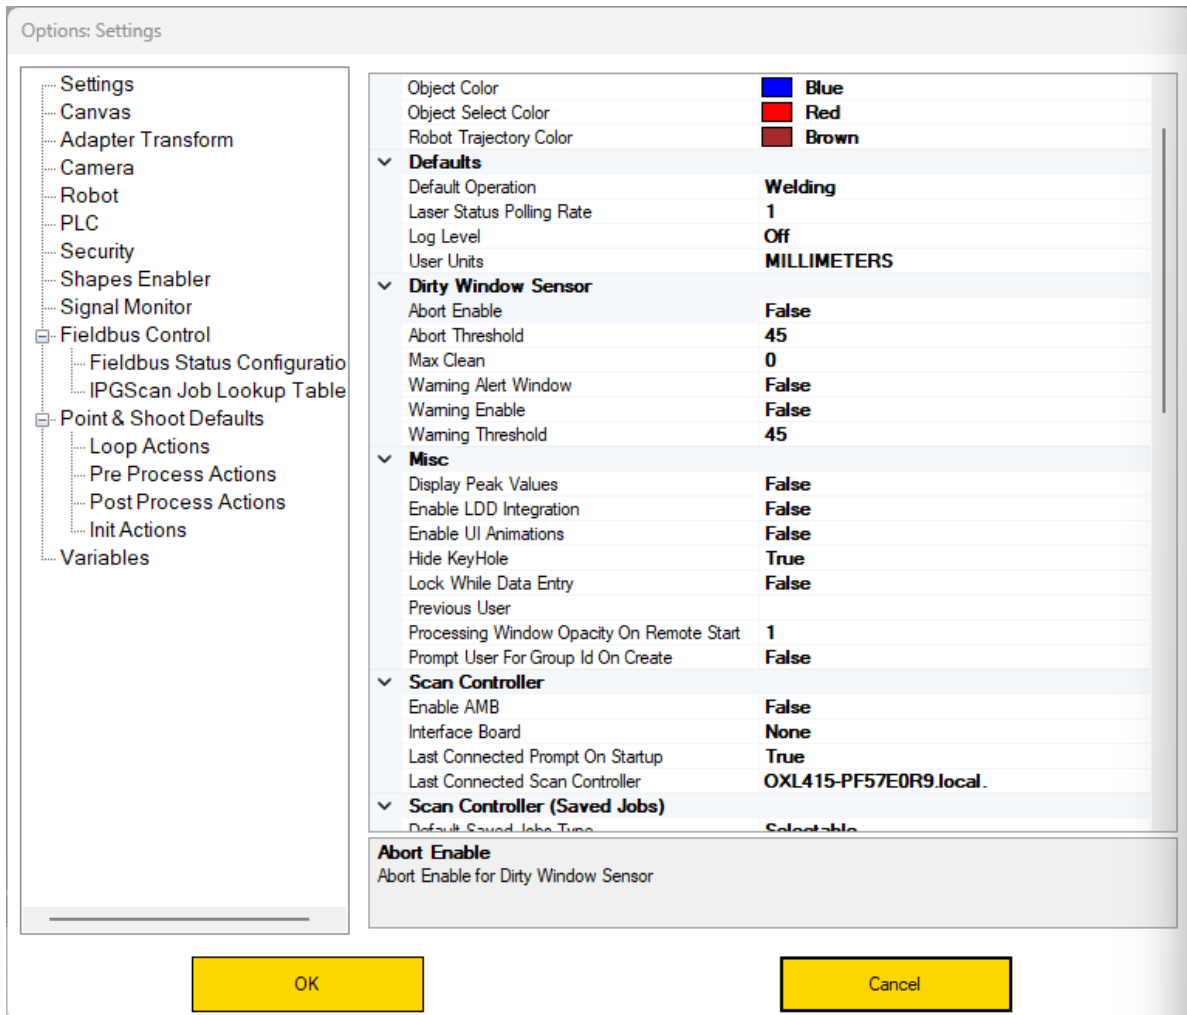

Figure 26: IPGScan Options Menu
- a. The Options menu will appear as a pop-up window. See Figure 26.